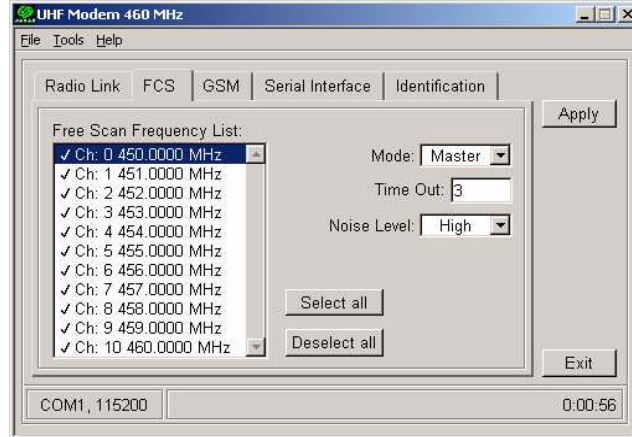

Figure 2-26. FCS Tab
- Click on the **FCS** tab (Figure 2-26 on page 63).